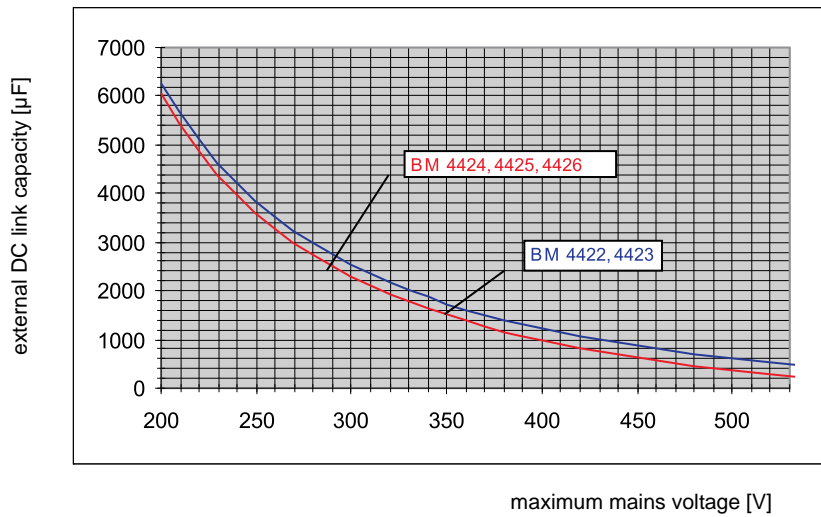

Figure 76: Maximum external DC link capacity BM442X
DC link capacity (external), permitted	see ▶Figure 76◀ on page 197
- 9) The specified value is only valid, if there is no additional DC link capacity connected to the DC link terminals. Also see ►Mains switch-on-frequency/DC-link charging◄ on page 109 and ►Figure 76◄ on page 197.